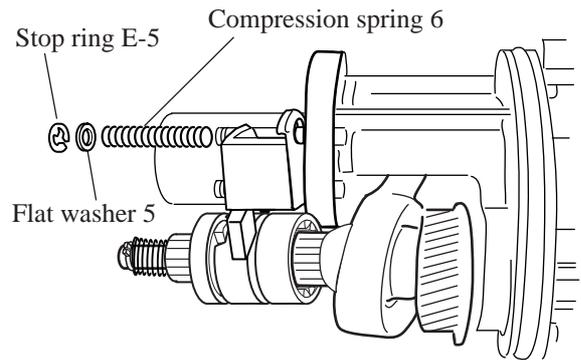

Fig. 11G
9. Assemble compression spring 6 and flat washer 5 to the pin of inner housing. And fix them with stop ring E-5 as illustrated in fig. 11G.